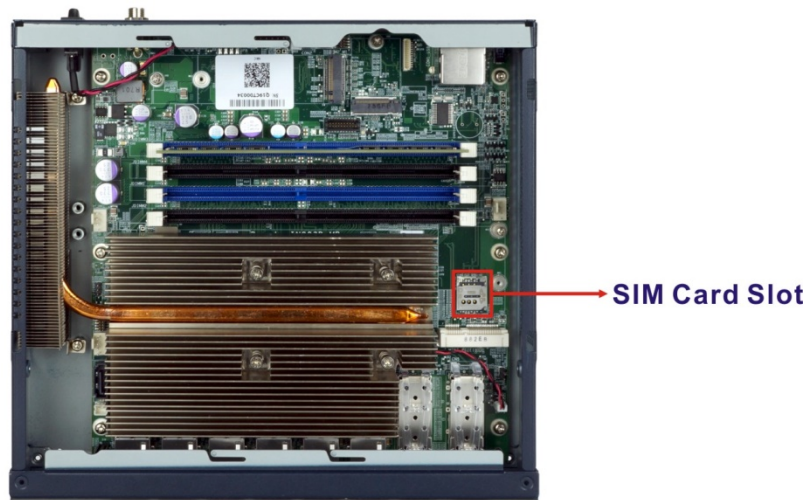

Figure 3-4: SIM Card Slot Location
- Step 2:** Locate the SIM card slot on the motherboard (**Figure 3-4**).